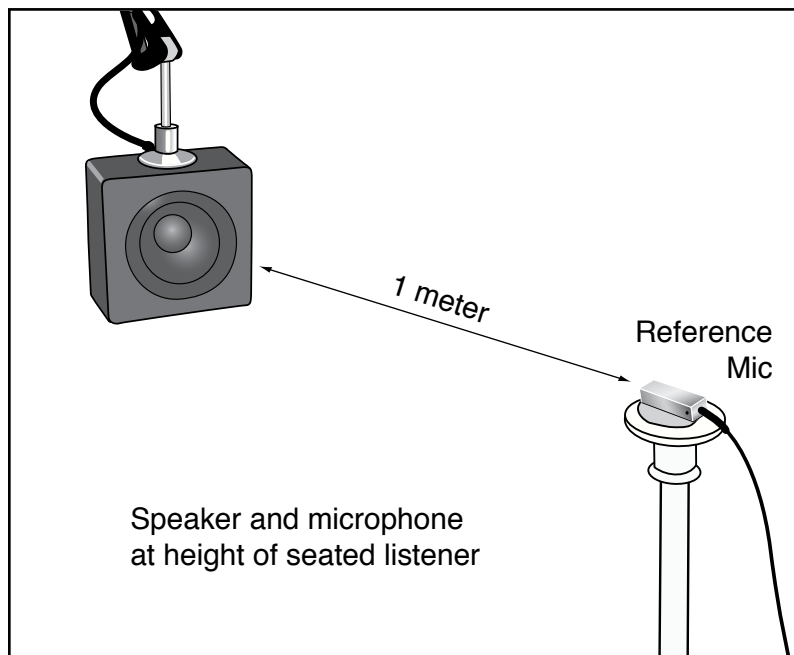

Figure 7.3.1C
3. Remove the reference microphone from the integrated probe microphone (the flat microphone on the top of the ear hook), and position it on a stand 1 meter from the sound field speaker at the height of a seated listener. See Figure 7.3.1C.